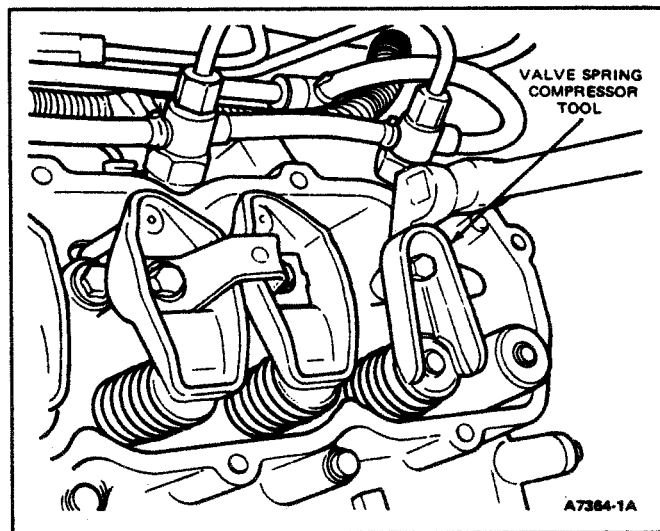
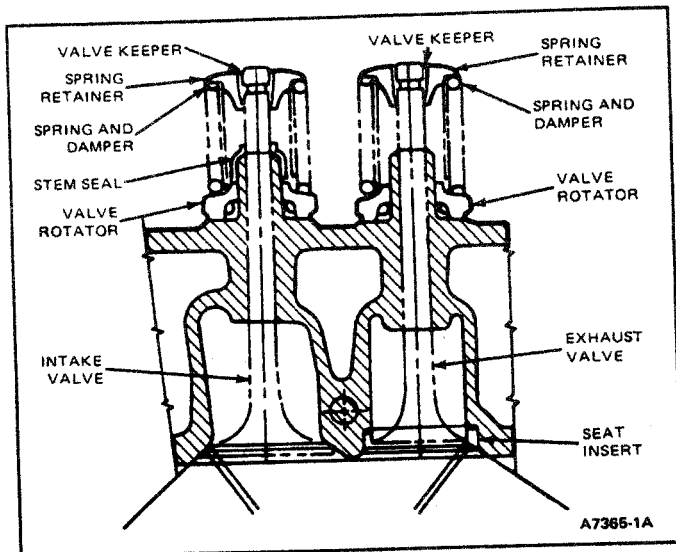

FIG. 47 Valve Spring Removal
FIG. 48 Valve Spring Assembly
2. Install valve rocker arms and posts in their original positions. (Fig. 47). Apply Polyethylene grease D0AZ-19584-A, or equivalent to valve stem tips.
4. Install spring compressor Tool T83T-6513-A or equivalent as shown in Fig. 47. Compress valve spring and remove retainer locks, spring retainer, valve spring and damper spring (Fig. 48).
4. Install a seal guide on valve tip and install a new intake valve stem seal (Fig. 48) using Tool T83T-6571-A and a light hammer or mallet to seat seal on intake valve stem and damper. Place spring in position over valve and install valve spring retainer assembly. Compress valve spring and install valve spring retainer locks. Remove compressor tool. Turn off air and remove air line adapter.